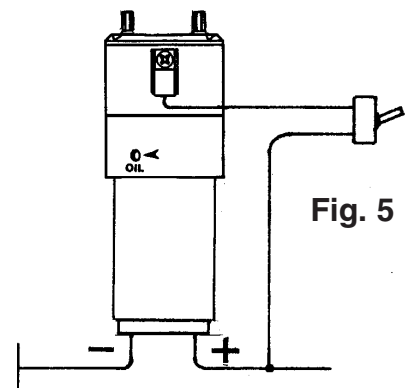

Fig. 5
- B. One terminal of the toggle switch is connected to the compressor's side terminal. Use insulated terminal provided to make connection (Figure 5).
- C. The other toggle switch terminal is connected to the positive (+) terminal at the bottom of the compressor. (Figure 5)